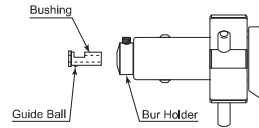

Fig. 5
- ② To mount larger tool  $\phi 3.2\text{ mm}$  through  $\phi 6.4\text{mm}$ , loosen the setscrew, remove the bushing, insert the tool and tighten the setscrew. (Fig. 5)
Loosen the tool mounting setscrew with the supplied allen wrench (2mm), and remove. To re-install the bushing, align the guide ball on the bushing with the slot, (Fig. 5)